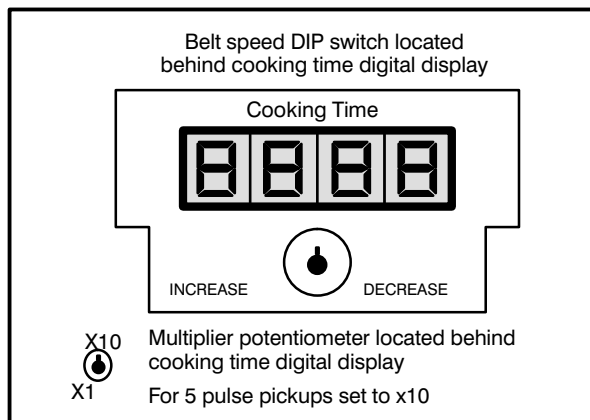

FIGURE 4
1. Remove the screws securing the cooking time display lens cover. Remove the lens cover. If a 5 pulse pickup is used, verify that the multiplier potentiometer is set to the x10 position (refer to FIGURE 4 for the potentiometer location).